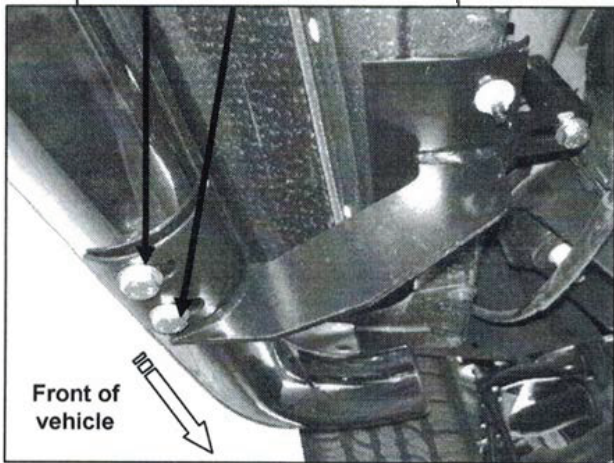

Figure 6
6. Once all three Mounting Brackets are partially mounted, carefully position driver Sidebar onto Mounting Brackets. Attach Sidebar to Mounting Brackets using (6) M10 x 30mm Hex Head Bolts, (6) M10 Lock Washers, and (6) 10mm x 25mm x 2mm Flat Washers (Figure 6). Do not tighten at this time.